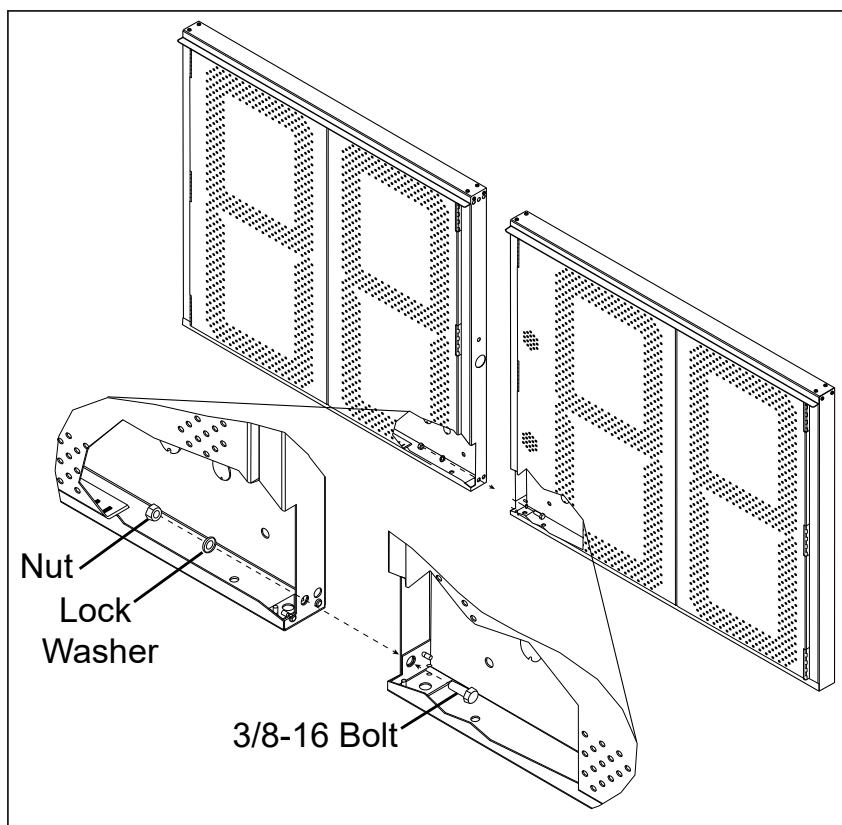

Figure 4: Connecting 36 Inch Sections
2. Join the sections together in the three designated locations (top, middle, bottom) with 3/8-16 bolt, lock washer, and nut. Refer to **Figure 4**.